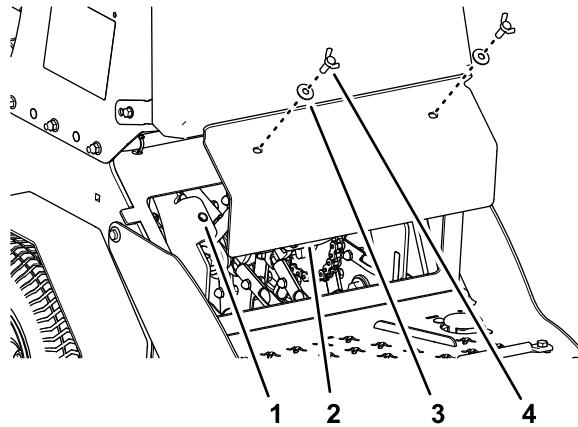

Figure 59
3. Remove the 2 thumbscrews (3/8 x 1 inch) and 2 washers (3/8 inch) that secure the rear-cover panel to the chassis, and remove the panel (Figure 59).
6. Align the holes in the rear-cover panel to the holes in the chassis (Figure 59).
- Secure the cover panel to the chassis with the 2 thumbscrews and 2 washers (Figure 59) that you removed in step 3, and torque the bolts to 37 to 45 N·m (27 to 33 in-lb)